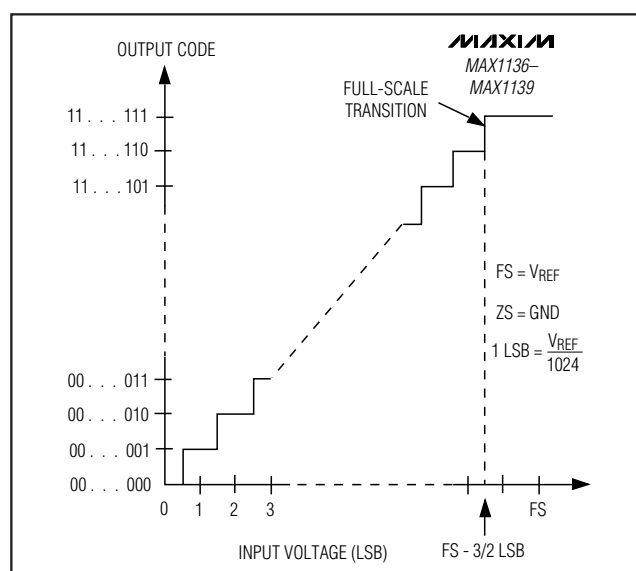

Figure 12. Unipolar Transfer Function
Output data coding for the MAX1136–MAX1139 is binary in unipolar mode and two's complement in bipolar mode with 1 LSB = (V_{REF}/2N) where 'N' is the number of bits (10). Code transitions occur halfway between successive integer LSB values. Figure 12 and Figure 13 show the input/output (I/O) transfer functions for unipolar and bipolar operations, respectively.